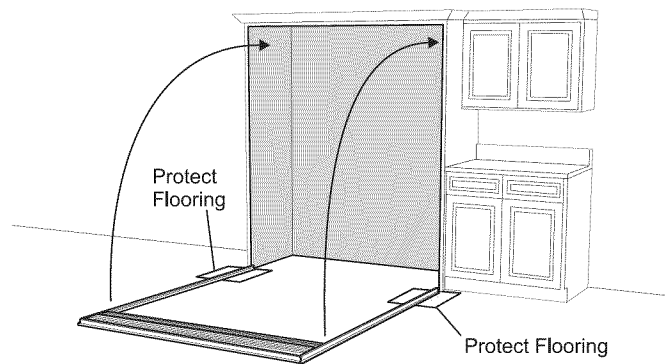

Figure 6
- First, place protective covering where side trim will contact the floor near rough opening. Then, stand up the grill and frame assembly and center in rough opening. You may need to use several pieces of tape at the top corners and top center to temporarily hold the assembly in place. See Figure 6.